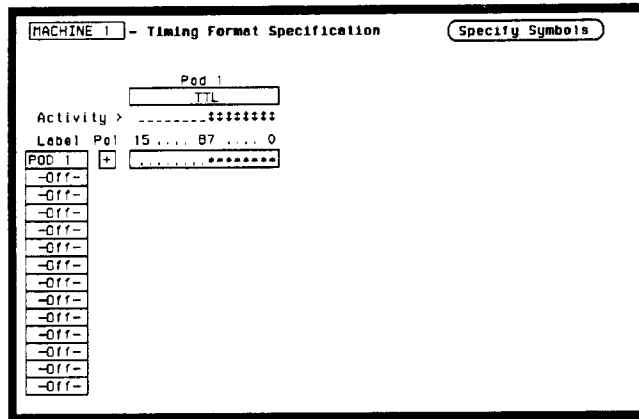

Figure 3-33. Glitch Test Timing Format Specification
4. In **State Format Specification** assign the lower eight bits of the pod under test to a label as shown in figure 3-33. Make sure the appropriate eight bits in the bit assignment field are turned on.